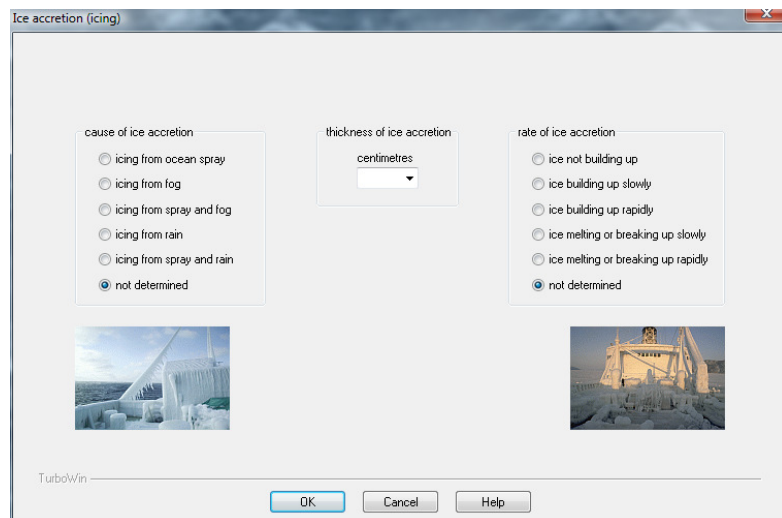

Figure 32. Ice accretion dialogue box
- 10.14.1.** Ice accretion refers to ice forming on the ship and is reported as a thickness measured in centimetres. The rate of accretion and the cause of accretion are also reported. See **Figure 32**.